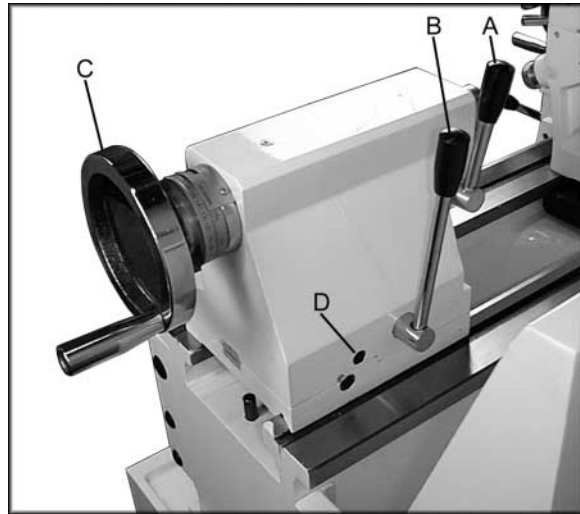

Figure 16
16. **Tailstock Quill Clamping Lever (A, Fig. 16)** - located on the tailstock. Lift up to lock the spindle. Push down to unlock.
17. **Tailstock Clamping Lever (B, Fig. 16)** - located on the tailstock. Lift up lever to lock. Push down lever to unlock.
18. **Tailstock Quill Traverse Handwheel (C, Fig. 16)** - located on the tailstock. Rotate clockwise to advance the quill. Rotate counter-clockwise to retract the quill.
19. **Tailstock Off-Set Adjustment (D, Fig. 16)** - two hex socket cap screws located on the tailstock base are used to off-set the tailstock for cutting tapers. Loosening one screw while tightening the other off sets the tailstock.